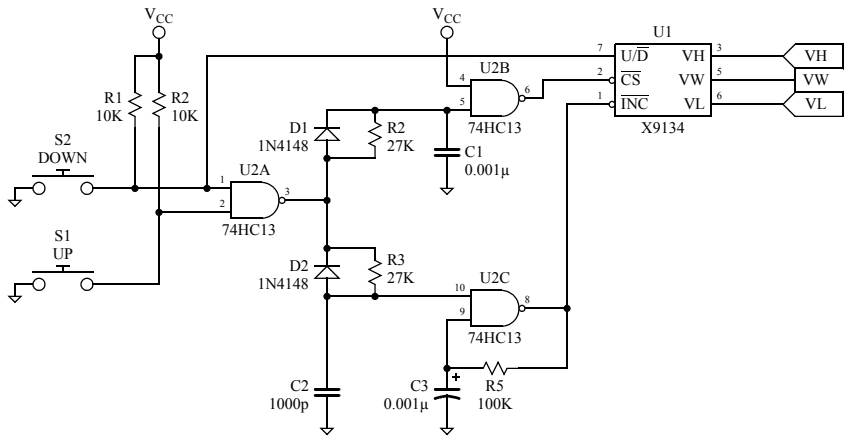

FIGURE 3. SIMPLE 3-WIRE XDCP EVALUATION CIRCUIT
A more traditional 3-wire interface, consisting of chip select (CS), increment (INC), and directional (U/D) pins, can be found on the X9CMME, X9312, X9313, and X9314. The X9CMME (aka X9C102/103/104/503) has 100 taps and a tolerance on VH and VL of between -5V and +5V with respect to the Vss pin voltage. This is standard for all of Intersil's XDCPs, except for the X9312 which allows for any voltage between 0V and +15V (with respect to its Vss pin voltage) to be applied to VH or VL. The X9CMME and X9312 have 100 taps, while the X9313 and X9314 have 32 taps. The X9314 is a log taper version of the X9313. The circuit in Figure 3 can be used to evaluate these devices.